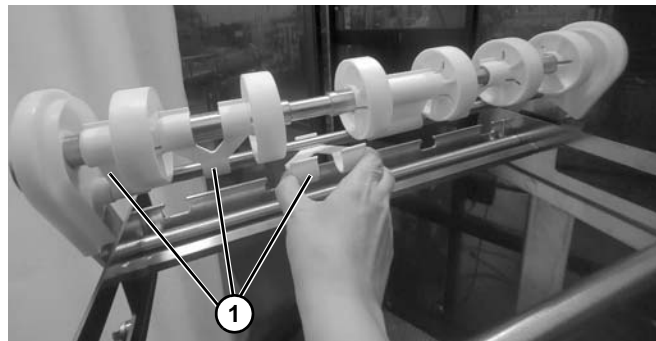
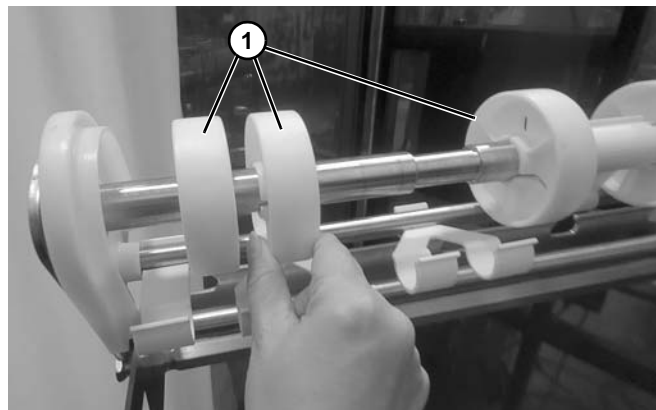

Figure 36
Figure 37
- b. **Idler End:** Clean idler tail and pucks, disengage puck spacers (**Figure 36, item 1**), slide idler pucks (**Figure 37, item 1**), and clean again.